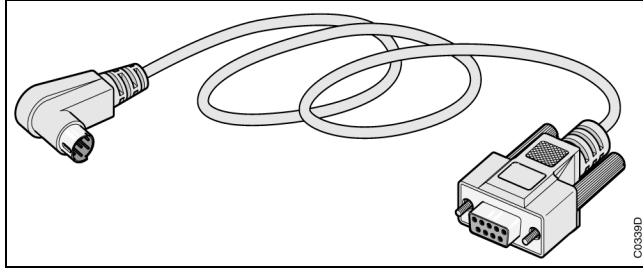

Figure 3-15 : 07 SK 50 programming cable
7.1.1. 07 SK 50 connection diagram (see Figure 3-15):